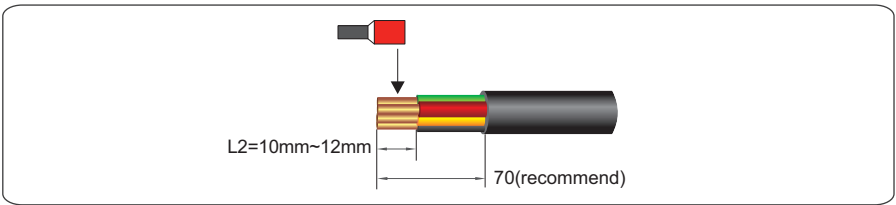

Figure 5.4 Stripped length (unit: mm)
**Step 1** Remove an appropriate length of the jacket and insulation layer from the AC output cable using a wire stripper, as shown in Figure 5.4.